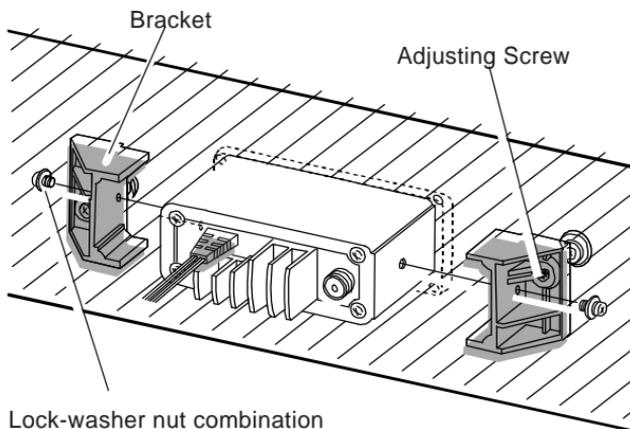

Figure 2. CMB16 Flush Mount Installation
4. Fasten the brackets to the sides of the transceiver with the lock washer nut combination, so that the mounting screw base faces the mounting surface (see Figure 2).